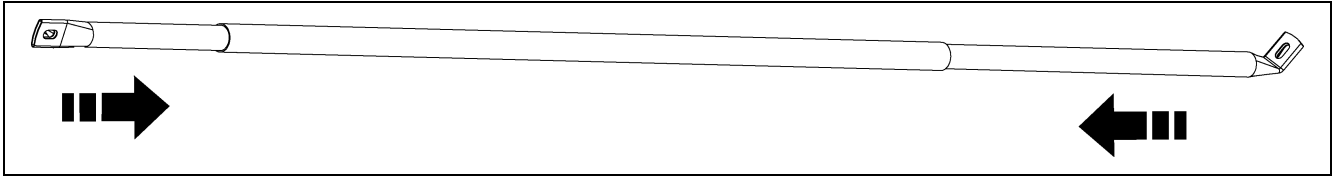
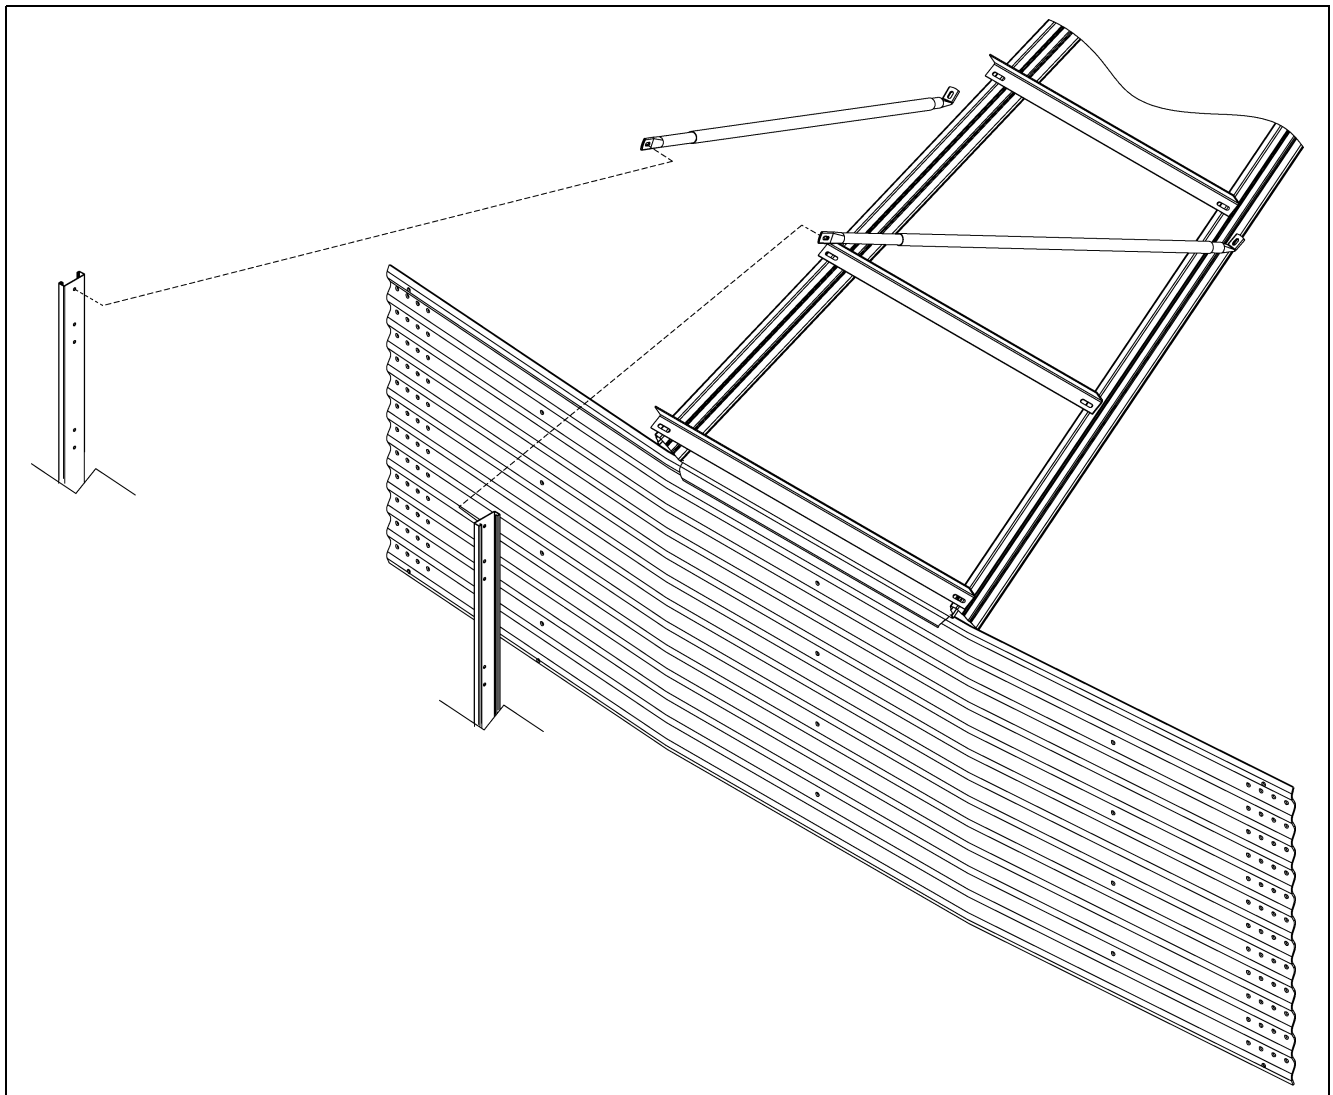

Figure 6G
Figure 6H
The eave adjustable braces must be attached at this time. An eave adjustable brace is comprised of one (1) large diameter tube and two (2) smaller tubes. (See Figure 6G.) Slide the smaller tubes inside the larger tubes and attach one (1) smaller tube to the top of the ladder extension rail. Adjust the other smaller tube so the bottom of the flattened tube reaches the roof panel. Field drill four (4) 5/16" holes through both large and small tubes and bolt together using 1/4" x 1-1/2" bolts and nuts. This prevent the adjustable braces from slipping. (See Figure 6H.)